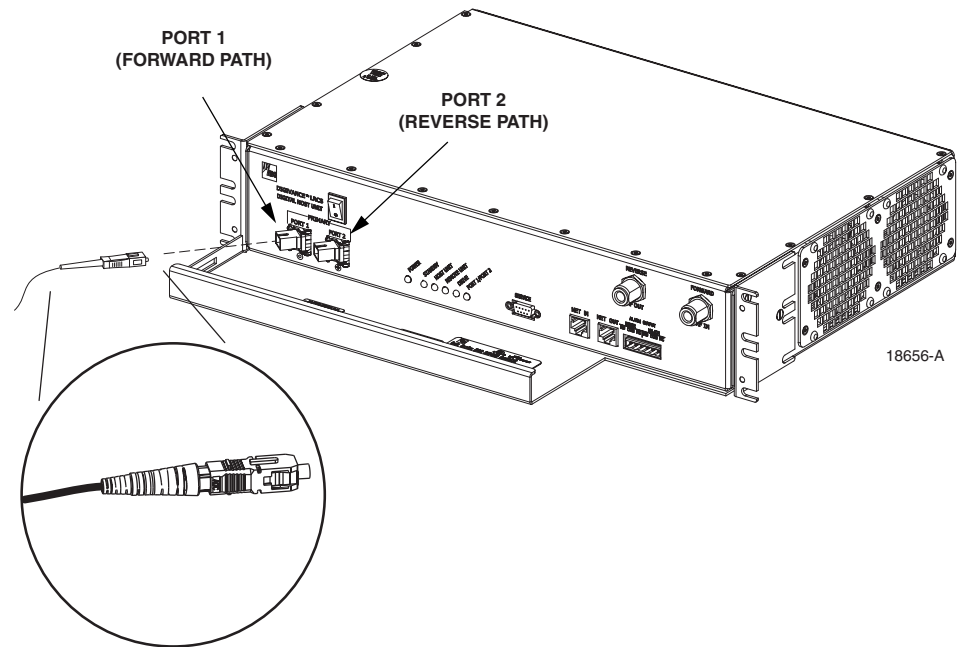
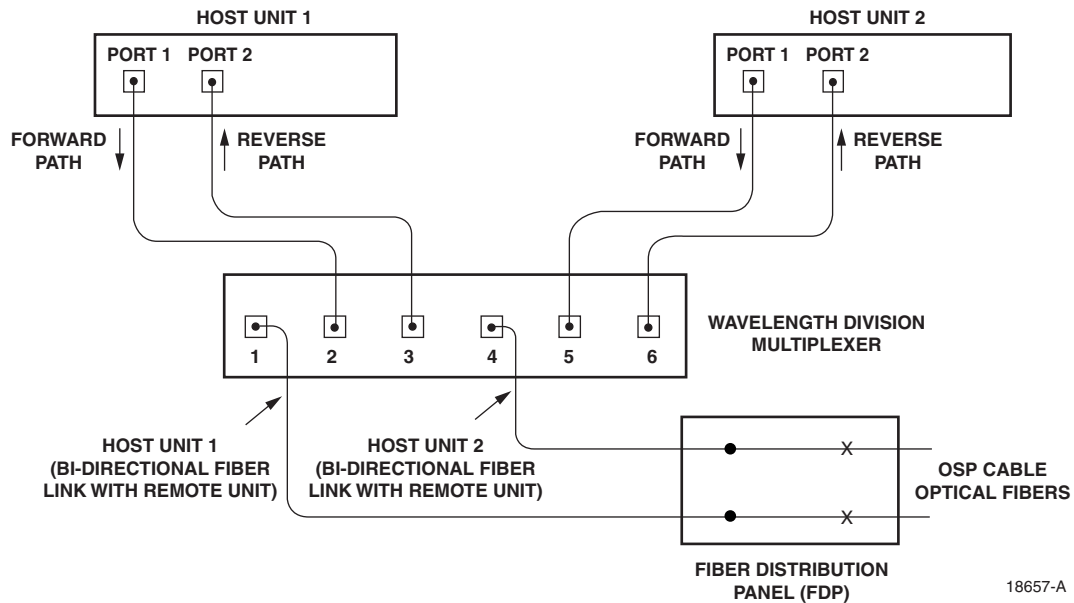

Figure 3-9. Fiber Optic Cable Connections To Host Unit
Figure 3-10. Fiber Optic Connections To WDM Module
5. Insert the connector into the appropriate optical port as shown in Figure 3-9.
- **Note:** Each WDM module can support two separate HU's. The WDM module ports are numbered from 1 through 6 as shown in Figure 3-10. Ports 1 through 3 are used for HU #1 and Ports 4 through 6 are used for HU #2.
11. Clean each pigtail connector (follow the procedures provided with the WDM module) and then insert the connector into the appropriate optical port on the HU as shown in Figure 3-9 and as diagramed in Figure 3-10.